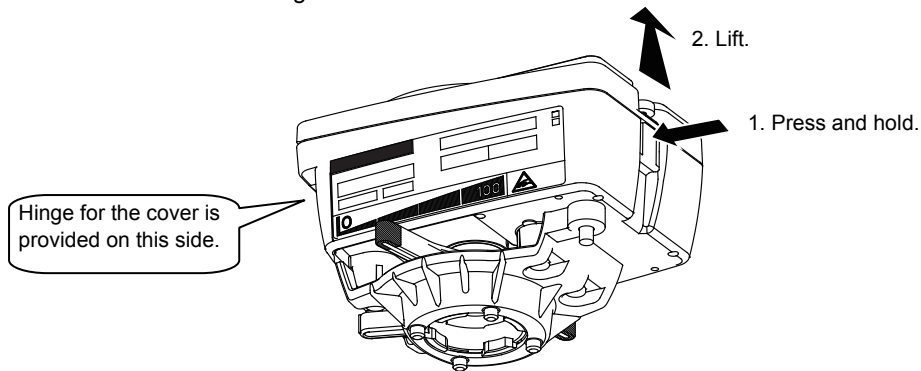

Figure 11. Cover removal
- 1) Press and hold the latch (snap-fit design) to lift the top cover. Disassemble the hinge (on the other side of the actuator) to remove the cover. See Fig. 11 for removing the top cover.